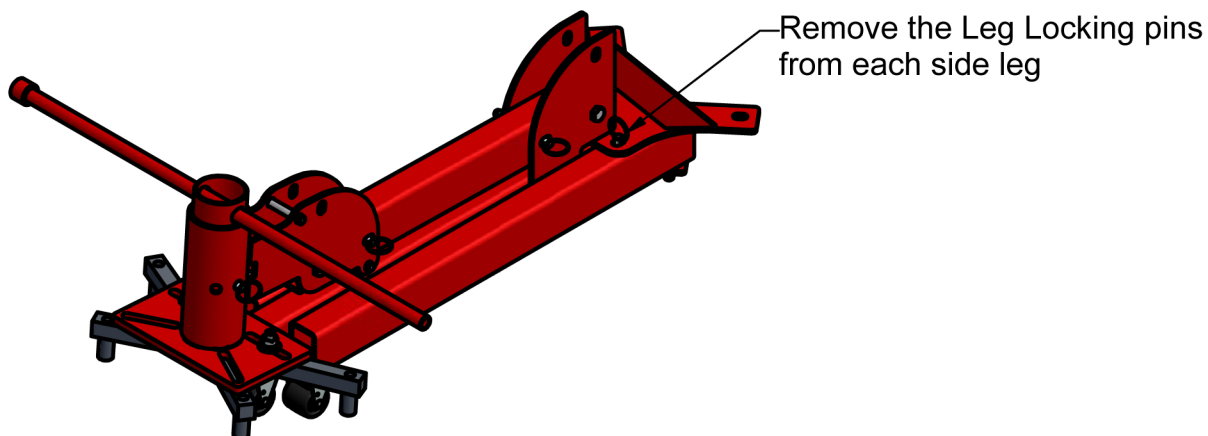

FIGURE 1
4. Remove the Leg Locking Pins from each leg and swing the legs to their fully open position. Reinsert the pins to secure (Fig 1 & 2).